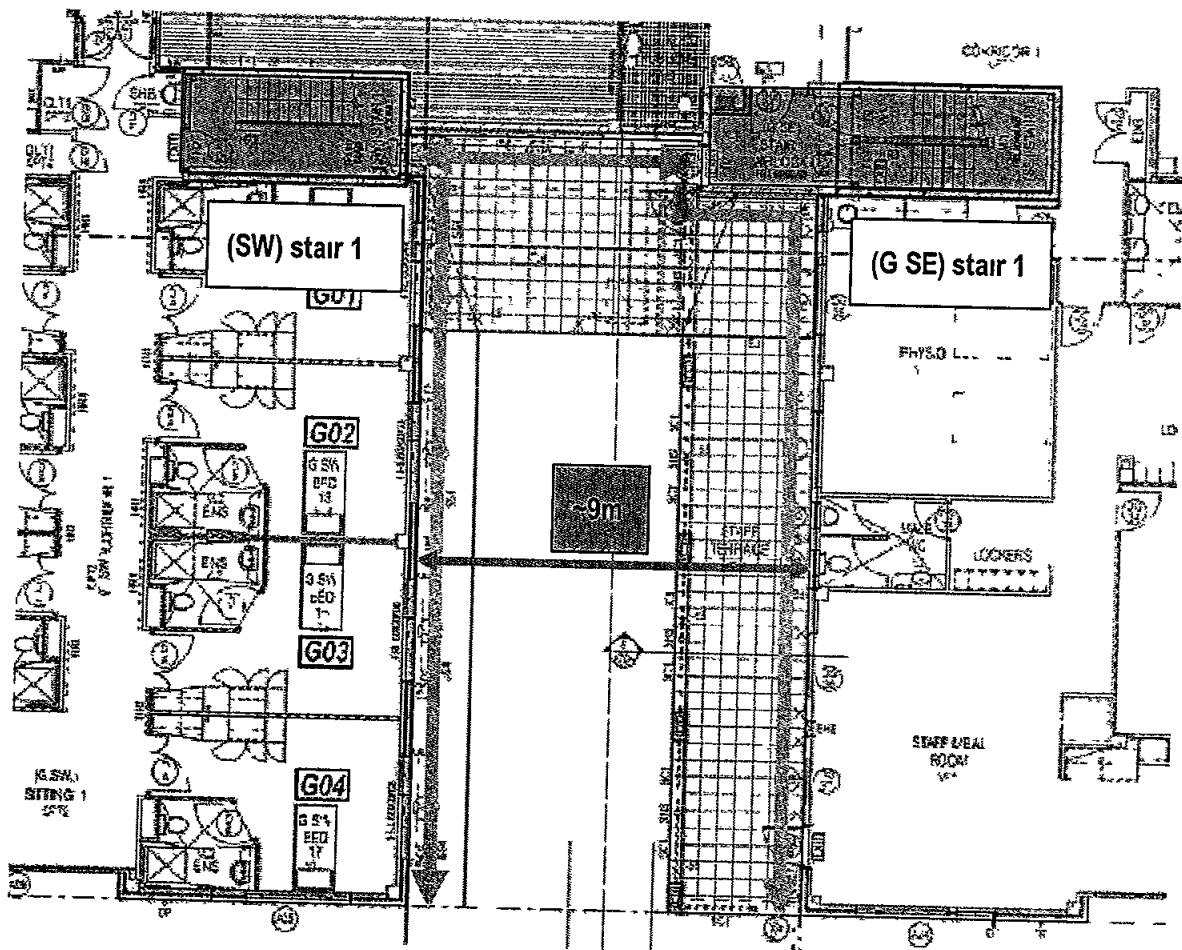

Figure 13 Discharge into the southern courtyard
The two stairs (SW) stair 1 and (G SE) stair 1 discharge into area between the SW wing and the SE wing – refer to Figure 13. The SW and SE wing are separate fire compartments.